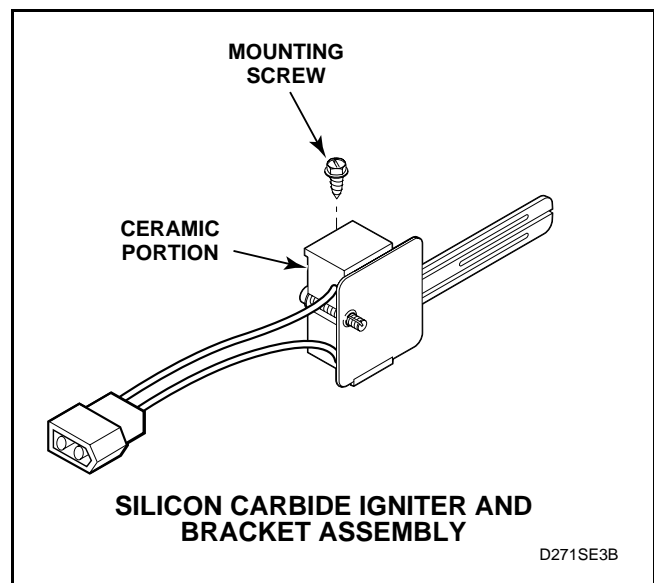

Figure 64
- Silicon Carbide Igniter** – meter should read between 45 – 200 Ohms. See *Figure 64*.